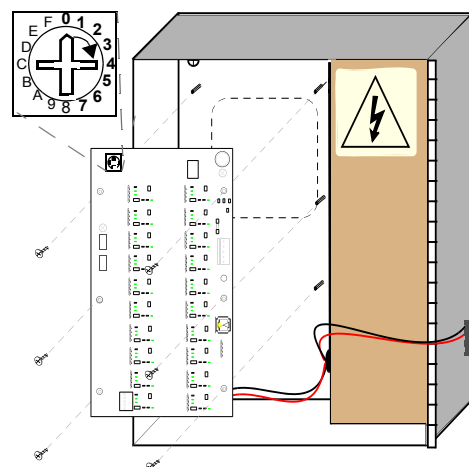

FIGURE 10: LCM20 in LC3000
- 1 With the enclosure door open, position the LCM20 over the six standoffs, with component side facing out (see Figure 10).
- 3 Set the rotary address switch to position 0. Refer to Figure 10.